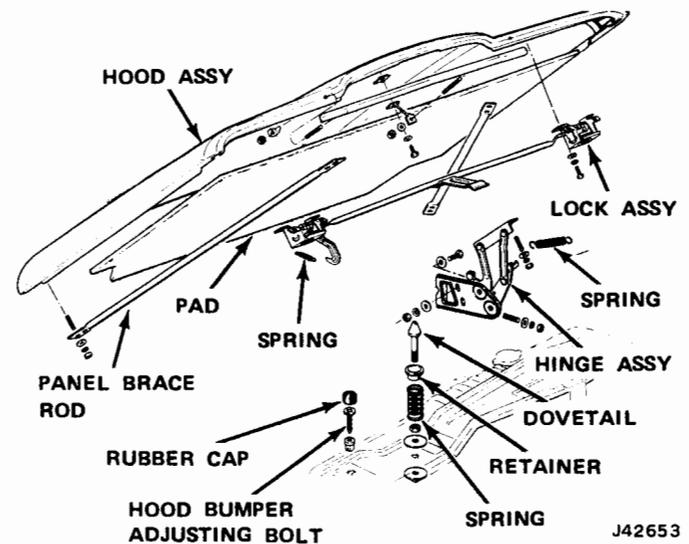

Fig. 14-15 Hood and Related Parts— Cherokee-Wagoneer-Truck
(4) Disassembly of Cherokee, Wagoneer, and Truck hood is accomplished by removing hood lever lock assembly, front filler bezel, left and right hood panel brace rods, and insulation pad (Cherokee and Wagoneer) cemented to the hood panel (fig. 14-15).